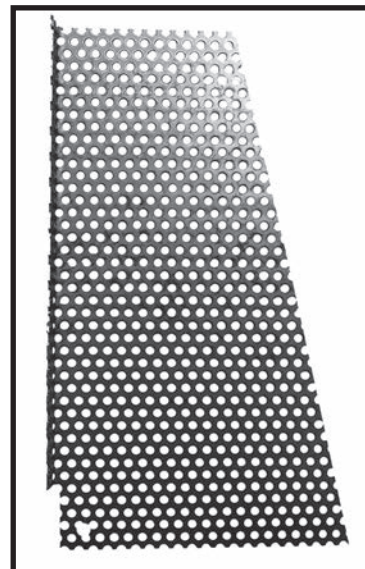
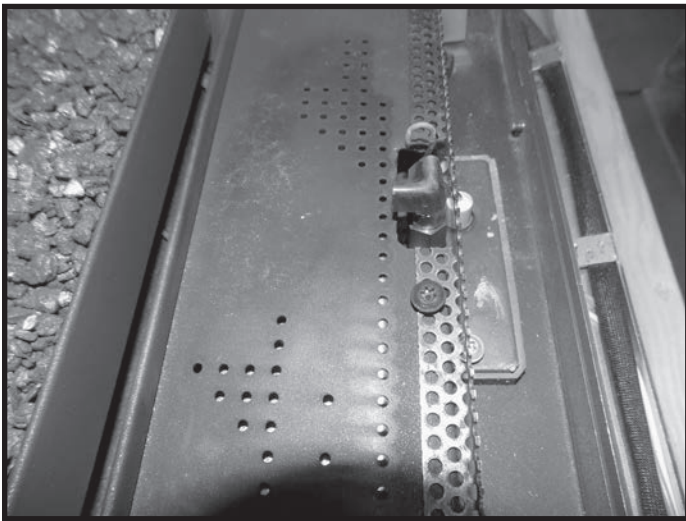
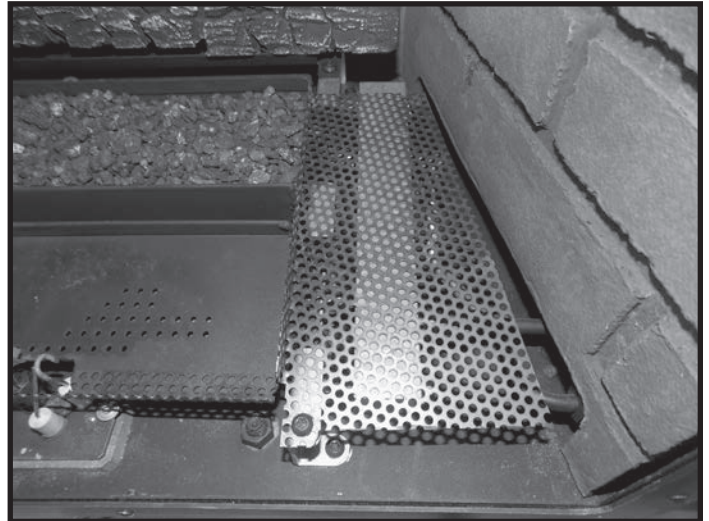

Figure 71: Side mesh guard.
Figure 72: Front mesh guard in place.
Figure 73: Side mesh guard in place.
5. Place the side mesh guard (Figure 71) on the right of the burners and secure with supplied screw (Figure 73). Secure using a single screw located in the lower left hand corner.
6. Once the front and side retainers are in place (Figure 72 and Figure 73), the log base pieces can be installed.